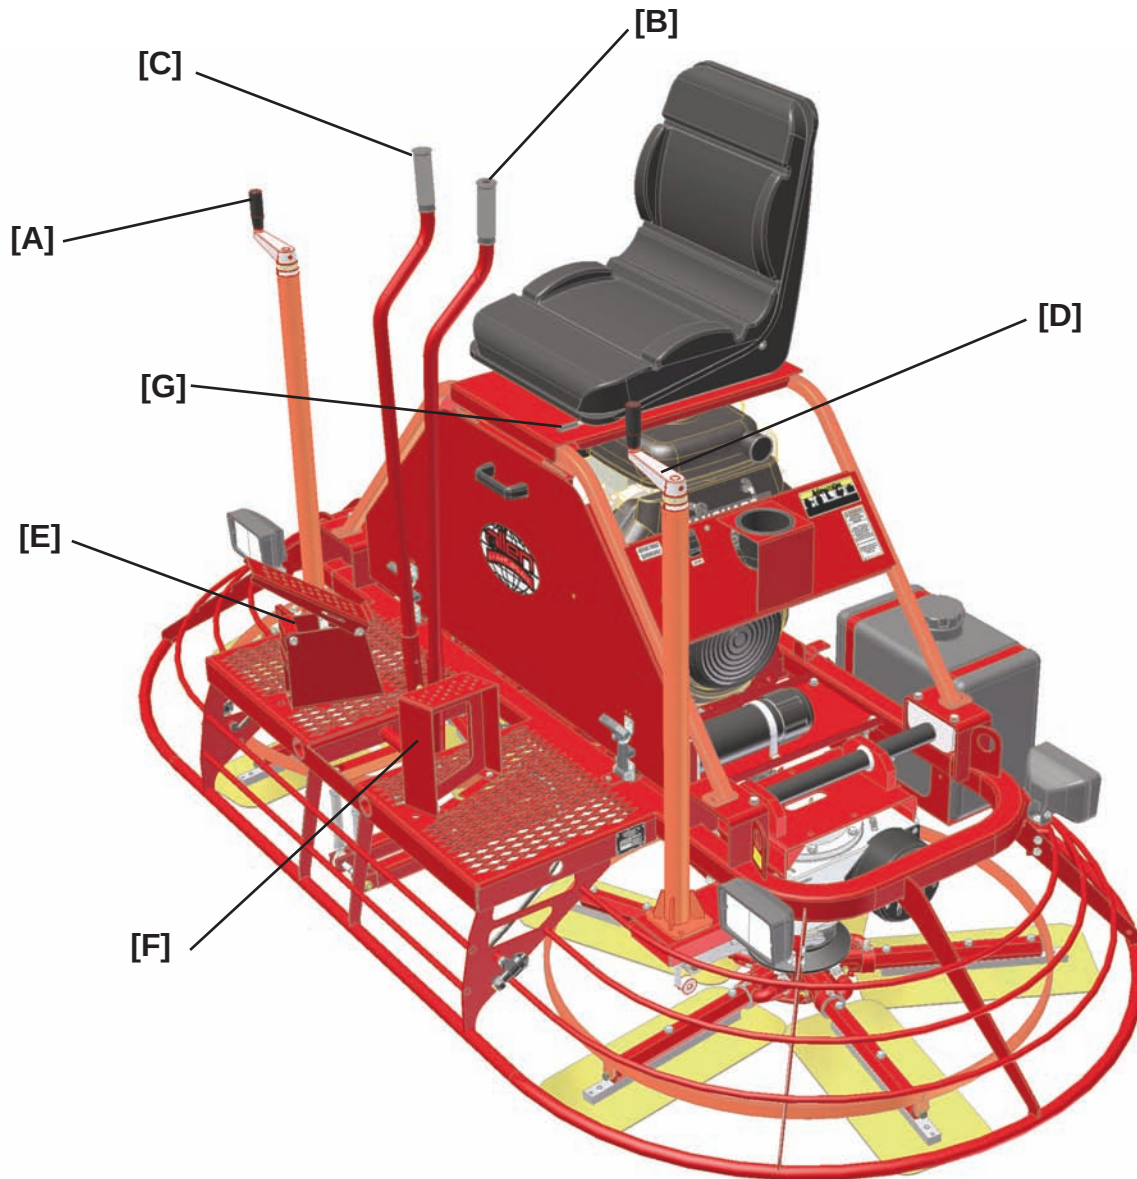

FIGURE 2.3.1
- 2) With the operator in the seat, show the operator the functions of the joysticks **[B]** and **[C]** and how to start the machine. Refer to Figure 2.3.1.